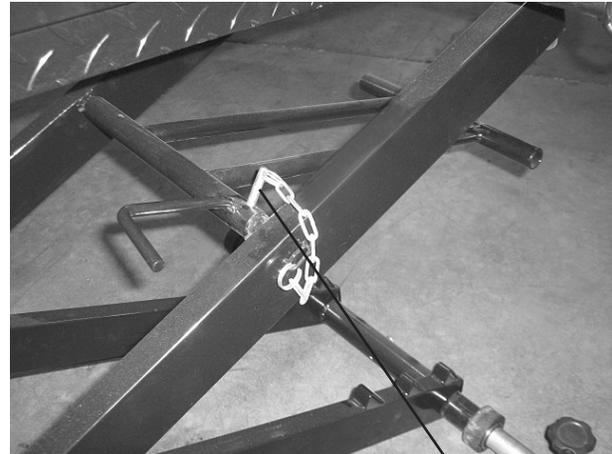

Figure 5 Safety Bar Pin (40)
16. Once the motorcycle has been lifted, do not move the Lift around. This Lift is not designed to transport any load. The Lift can be immobilized by turning the two Locking Bolts (41) clockwise firmly against the floor.
19. Pump the Pump Pedal (56) a few times to remove weight from the Safety Bar (75).
20. Disengage the Safety Bar (75) from the ramp of the Inner Scissor Arm (35). Swing the Safety Bar up and
insert the Safety Bar Lock Pin (40) into the hole in the upper axle of the Safety Bar. This will lock the Safety Bar in the upright position. See *Figure 5*.